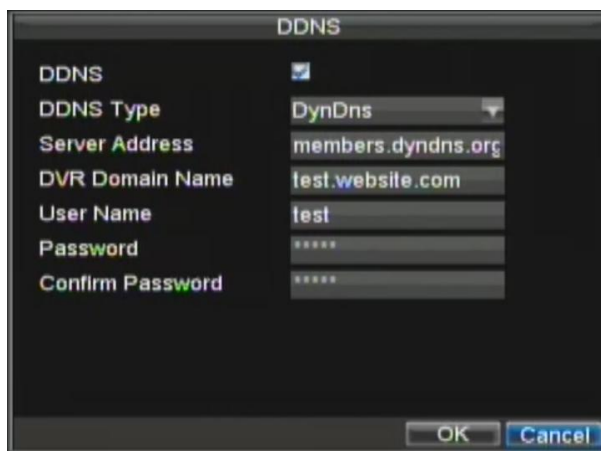

Figure 7. DynDNS Settings
- **DynDNS**: Enter **Server Address** for DynDNS (i.e. members.dyndns.org) (Figure 7). Under DVR Domain Name, enter the domain obtained from the DynDNS web site. Lastly, enter the **User Name** and **Password** registered in the DynDNS network.